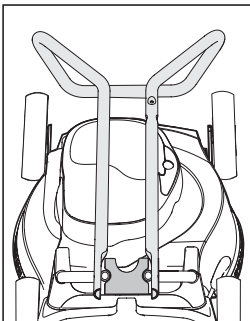

Fig 1.
2. Lay the upper handle across the engine cowl of the lawnmower, with the bend facing down (see fig 1).
(Fig. 1) 4 stroke models, twist filter cap anti-clockwise and remove cap from filter housing.